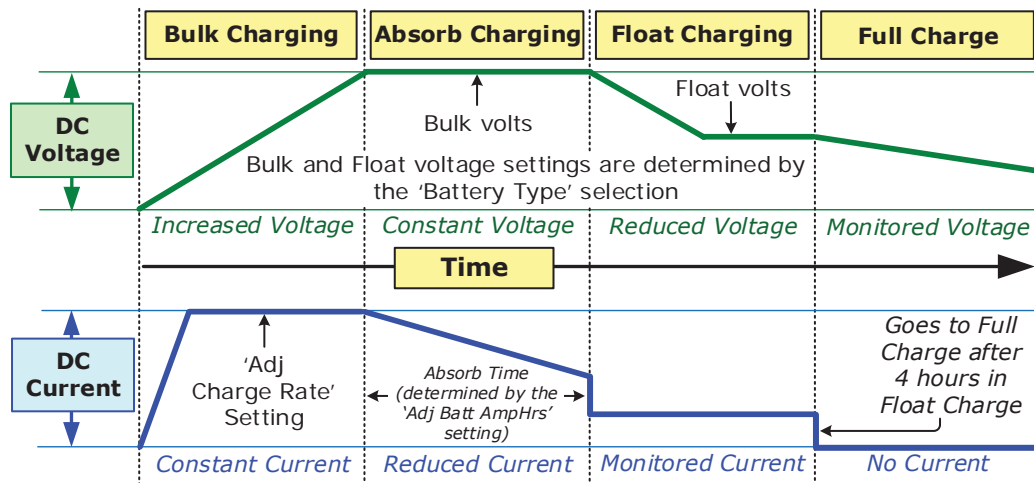

Figure 4-3, Automatic 4-Stage Charging Graph
The multi-stage charger can use up to five different charging stages to help monitor and keep the batteries healthy. The five stages include an automatic 4-stage charging process (Bulk, Absorb, Float, and Full Charge), and a manual Equalization (EQ) charge stage. The automatic 4-stage charge process provides complete recharging and monitoring of the batteries without damage due to overcharging (see Figure 4-3). The Equalization stage (requires a ME-MR, ME-RC, or ME-ARC remote control) is used to stir up stratified electrolyte and reverse any battery plate sulfation that might have occurred.